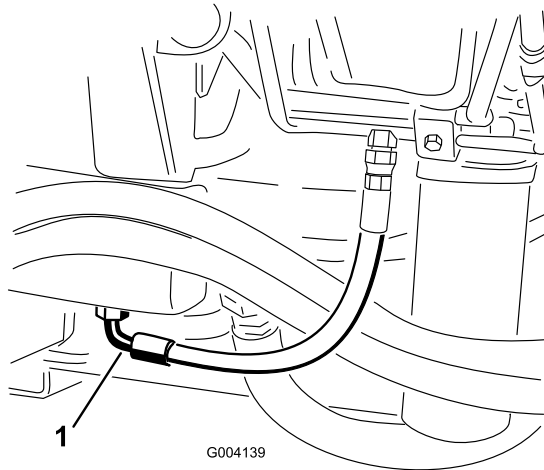

Figure 72
2. Place a large drain pan under the fitting secured to the bottom of the hydraulic-fluid reservoir (Figure 72).